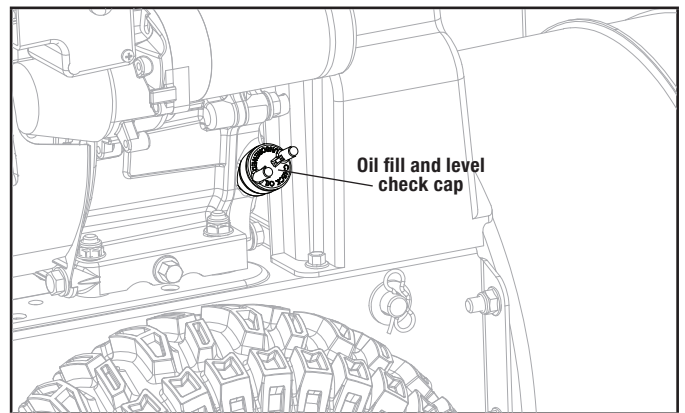

Figure 19A
2. Remove the oil cap/dipstick and wipe it clean (Fig. 19A).